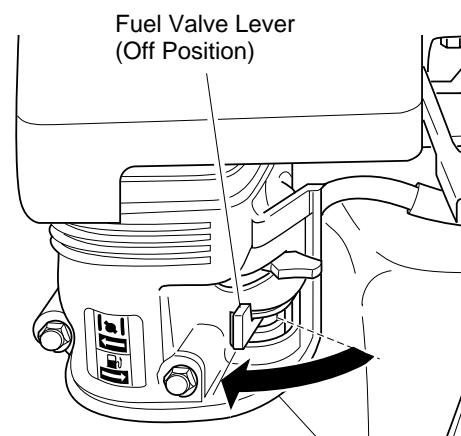

Figure 21 - Fuel Valve Lever Off (Model PGH7500IE Shown)
4. Turn fuel valve lever off. Do this by moving valve lever fully to the left (see Figure 21).